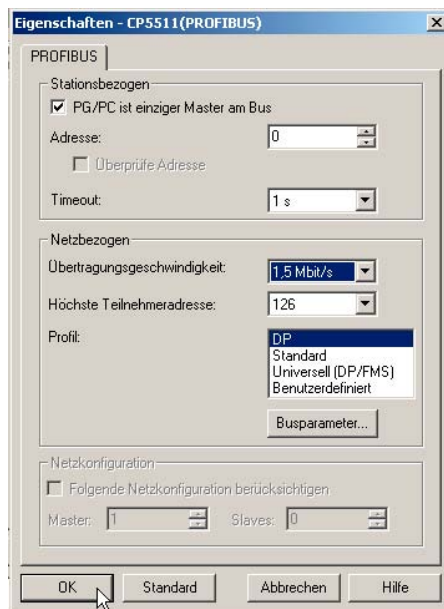

Fig. 3-6 Properties – CP5511 (PROFIBUS)
8. Enter the following properties in the **Properties – CP5511 (PROFIBUS)** dialog box (see Fig. 3-6):